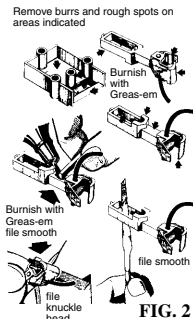

FIG. 2
1. Remove any flash and rough spots and burnish the "arrow" marked surfaces shown in Fig. 2 with Kadee[®] #231 Greas-em to ensure trouble-free coupler performance.